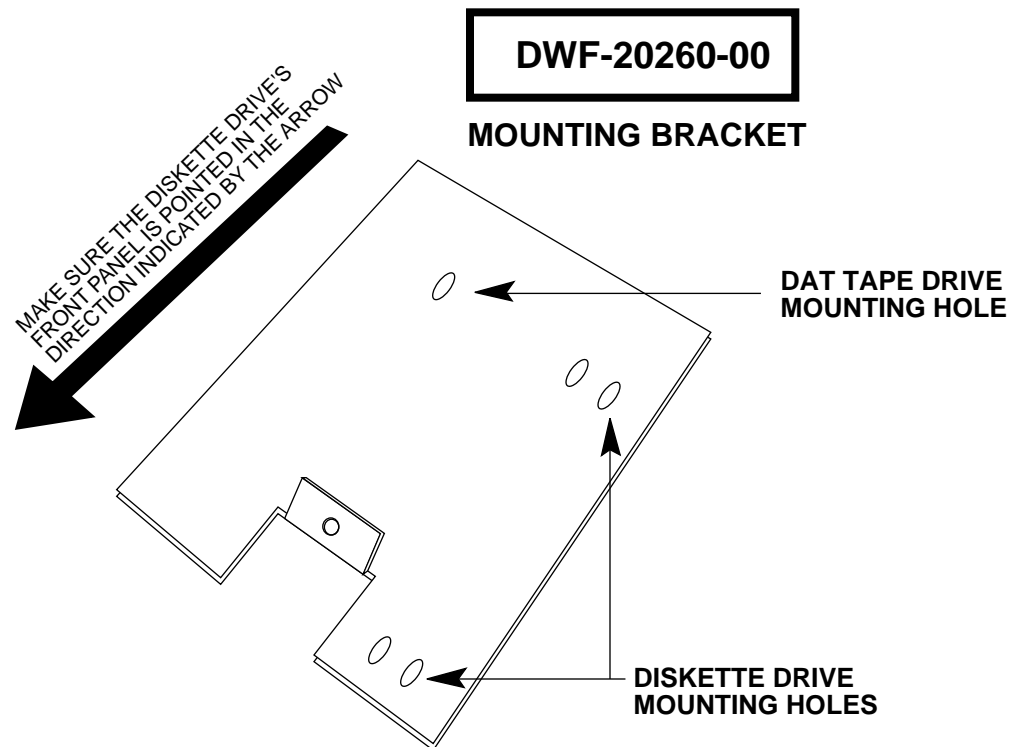

Figure 11 - Metal Top Support Bracket
6. Set the metal support bracket on top of the drive assembly as shown in Figure 9. Position the bracket so the mounting hole (see Figure 11) aligns with the screw hole on the side (top) of the DAT drive and the screw hole in the metal support bracket aligns with the screw hole in the front bezel.